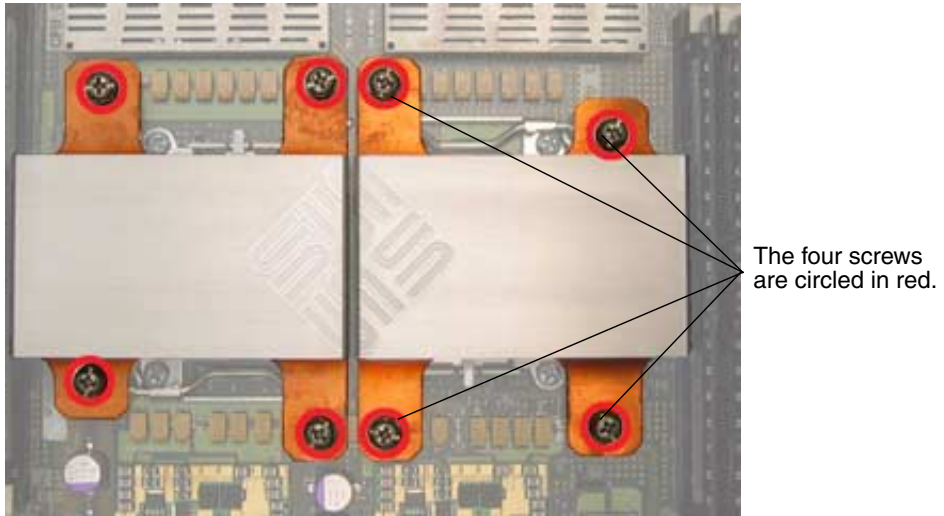
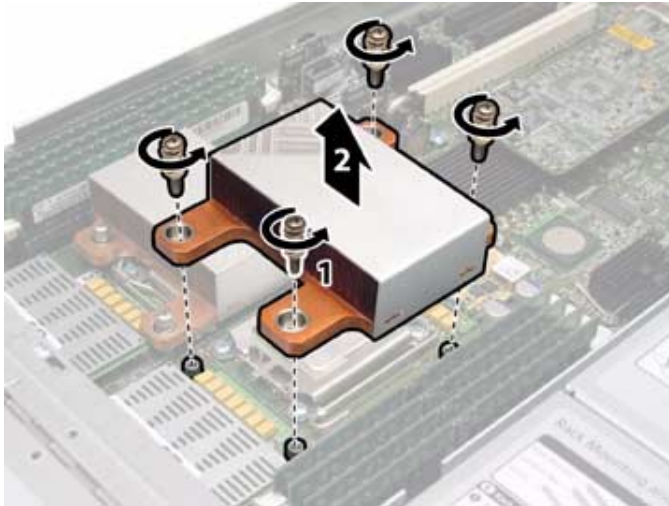

FIGURE 3-54 Location of the Heatsink Screws
FIGURE 3-55 Removing the Heatsink
- a. **Hold down on the top of the heatsink to prevent it from tipping unevenly while you alternately loosen the four spring-loaded mounting screws that secure the heatsink to the motherboard. Turn the screws 180-degrees at a time, then remove the screws when they are detached. See FIGURE 3-54 and FIGURE 3-55.**